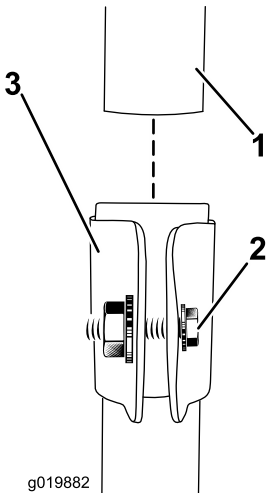

Figure 2
2. Slide the upper pole into the lower pole, lining up the tabs in the upper pole with the receiving tabs in the lower pole, and secure it by tightening the screw (Figure 2).